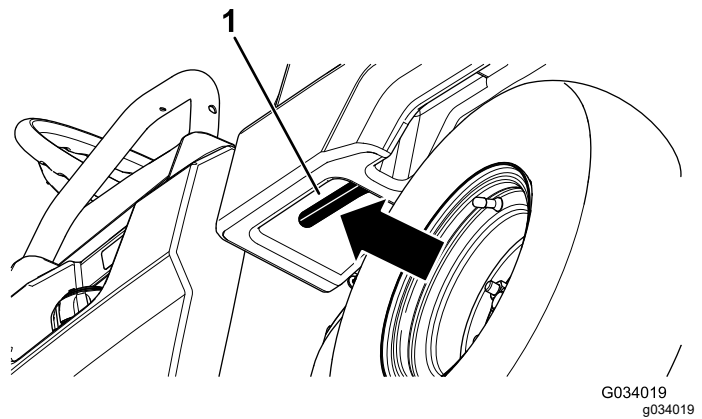

Figure 12
1. Pull the lever on left, inside of the cargo bed toward you and lift the cargo bed up (Figure 12).
1. Raise the cargo bed slightly by lifting up on the latch lever (Figure 12).